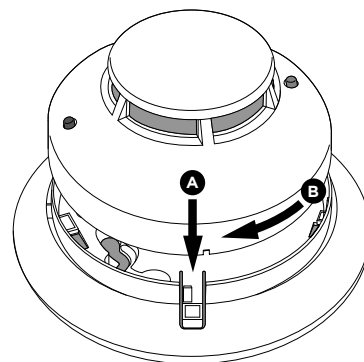

Figure 5: Mounting Detector Head
1. Place detector on the base and rotate clockwise. The detector will drop into the base and lock into place with a click. See Figure 5.